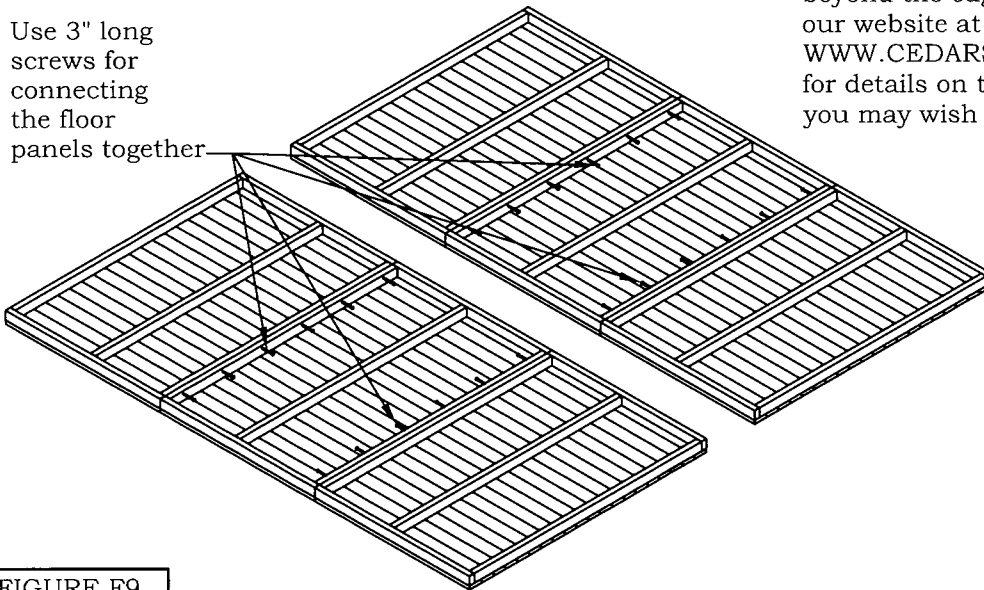

FIGURE F9
- Using 3" long screws, fasten the floor sections together from the bottom and then flip them over so the decking is facing up again as shown in Figure F9.